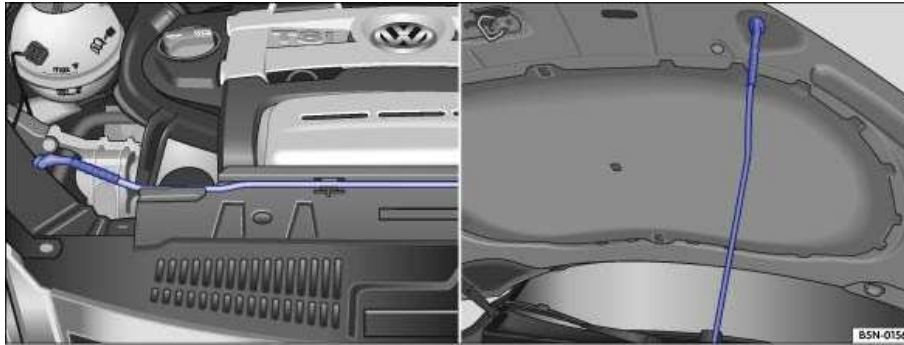

Fig. 5 Engine hood support in its stowed position in the engine compartment and when holding the engine hood open.
- Pull the engine hood support ⇒ Fig. 5 out of its retainer.
- Insert the support into the opening provided in the engine hood ⇒ Fig. 5.